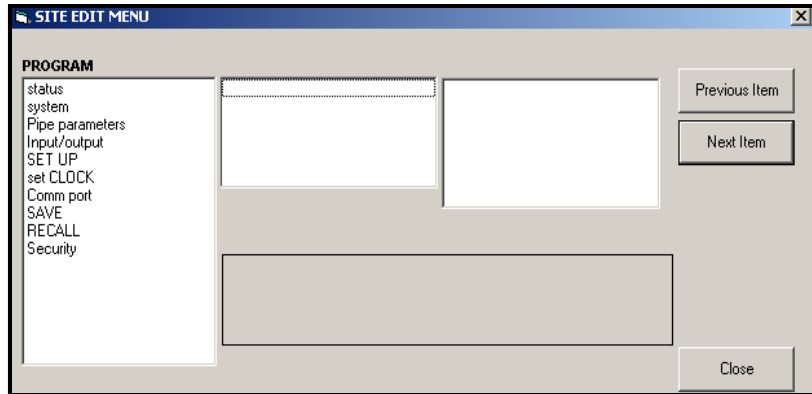

Figure 37: The Site Edit Menu Window
5. To open a particular menu, double-click on that menu on the tree. For example, if you double-click on the Site Edit Menu, a window opens similar to Figure 37 below.